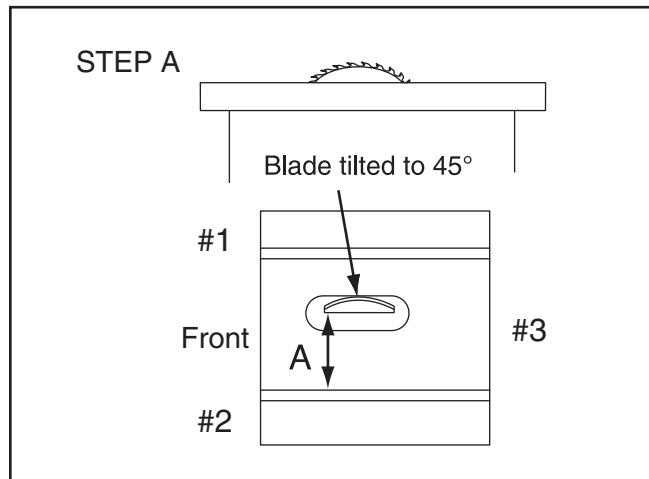

Figure 119. Shim procedure diagram A.
9. Loosen (4) table mounting bolts from **Step 6**.
10. Refer to **Figures 119–120** for shim placement. If distance A is shorter than B, shim(s) will need to be placed under corners #1 and #2. If distance of B is shorter than A, shim(s) will need to be placed under corner #3. Very thin shim stock works well.